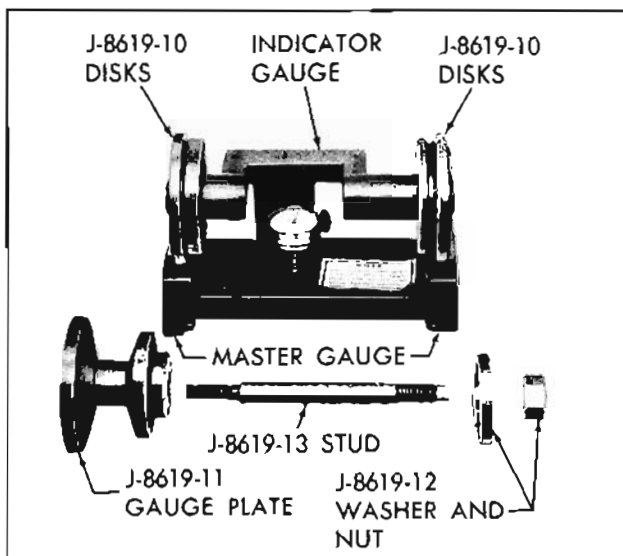

Fig. 10-119 Adjusting Gauge
2. Install the J-8619-10 discs on the indicator gauge. Install the small contact button on the stem of the dial indicator and mount the dial indicator on the indicator gauge. (Fig. 10-119)
3. Place the indicator gauge on the master gauge as shown in Fig. 10-119 so that the spring loaded center is engaged in the centering hole and the inner, large diameter